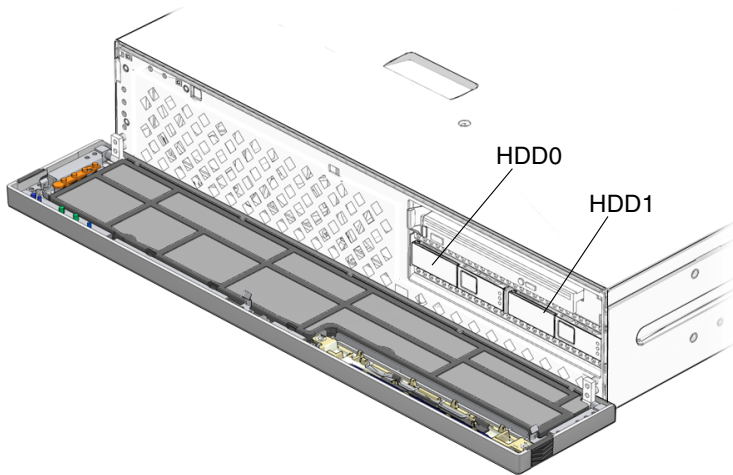

FIGURE 3-17 HDD Locations on a 2x HD/DVD configuration
2. Identify the location of the hard drive that you want to remove (FIGURE 3-17).